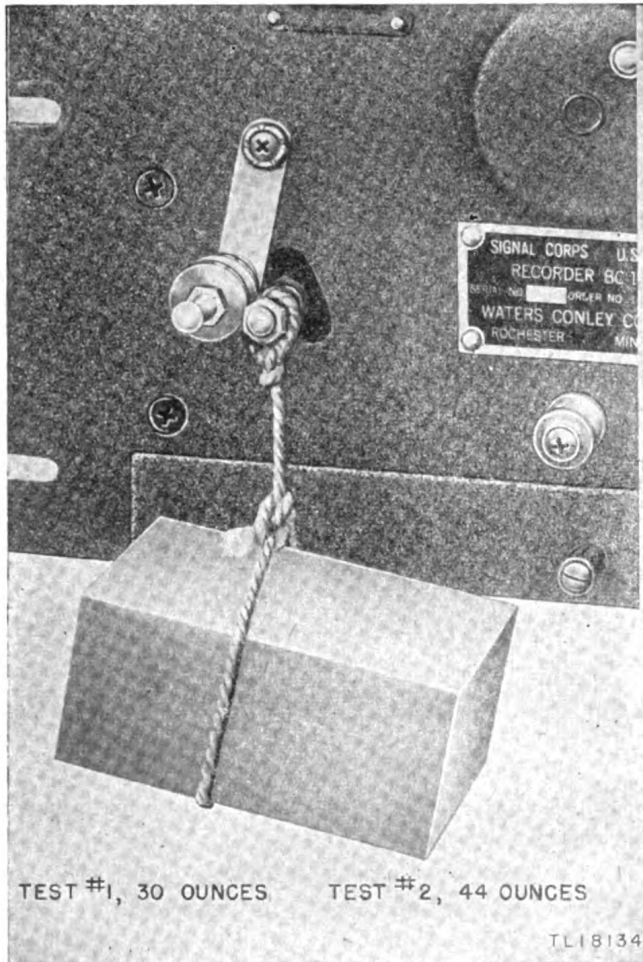

Figure 22. Drive tension adjustment test.
- c. Suspend weight of 30 ounces on shaft of tape drive roller (96) as shown in figure 22.
g. Remedy: Adjust drive tension screw (100). If this adjustment is still unsatisfactory, loosen setscrew in hub of friction drive disc (72) and reposition disc on shaft.